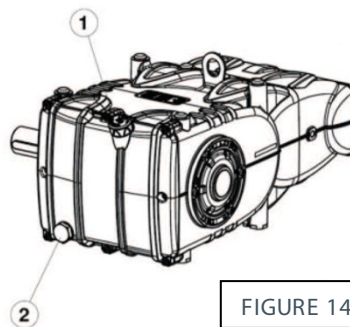

FIGURE 14
Check the oil level by using the appropriate oil level dipstick with minimum and maximum value notches (figure 14, item 1). Refill if needed. Correct oil level inspection is done with the pump at room temperature; oil is changed with the pump at working temperature, by removing the rear plug (figure 14, item 2). Oil is to be changed every 1000 hours of operation. The amount required is ~1 gal. (3.8 liters).